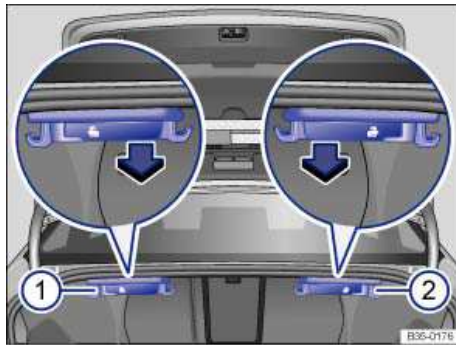

Fig. 101 In the luggage compartment: Release lever for the left 1 and right 2 sections of the rear seat backrest.
- ☐ Pull the remote release lever for the left ⇒ fig. 101 (1) or right (2) rear seat backrest in the direction of the arrow. The unlocked section of the rear seat folds forward automatically.